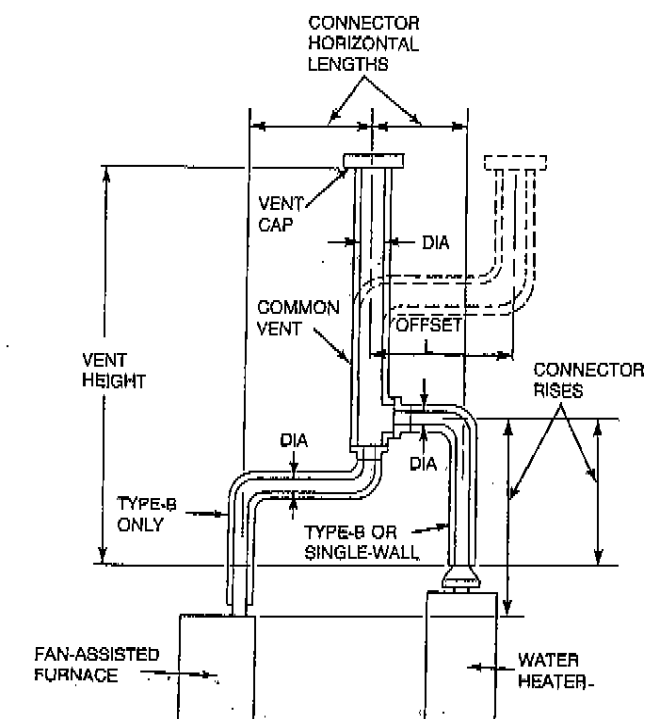

Fig. 1—Use With Tables 1, 2, 12 and 13
5. A vent or chimney may be offset as noted in the table below and as shown in Fig. 1, 2, 6, 7, or 8.
NOTE: Use as shown in Fig. 1, 2, 5, 6, 7, and 8.